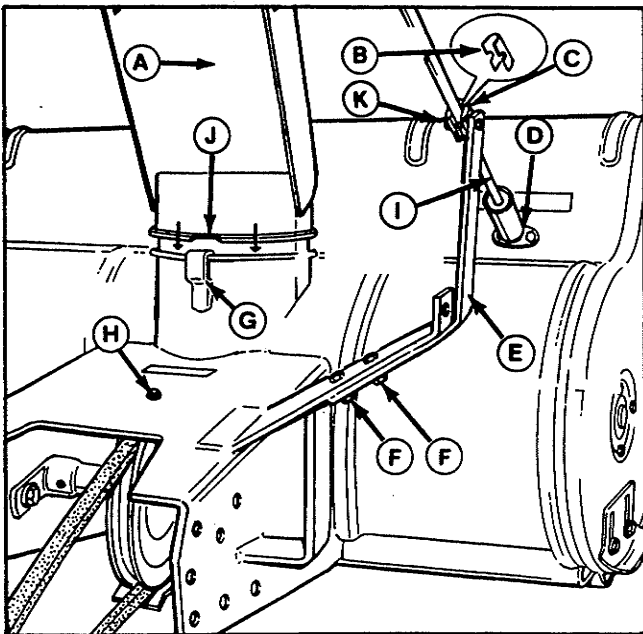

Figure 16. Spout & Controls
1. Attach the support arm (E, figure 16) to the snowthrower frame with two 1 inch (25.4 mm) long capscrews and flange locknuts (F) provided.